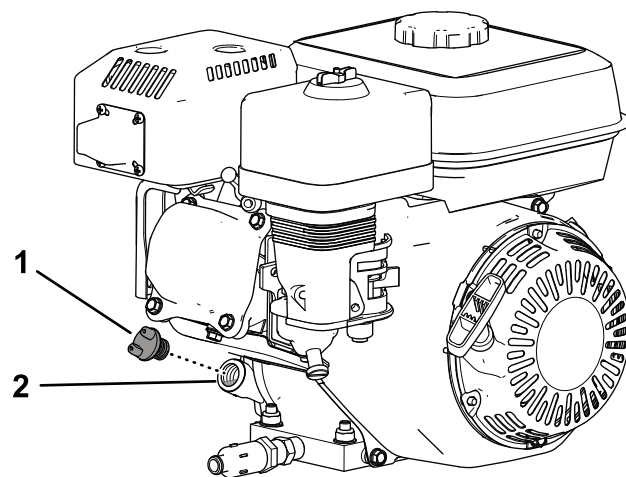

Figure 27
2. Clean the area around the oil-filler cap (Figure 27).